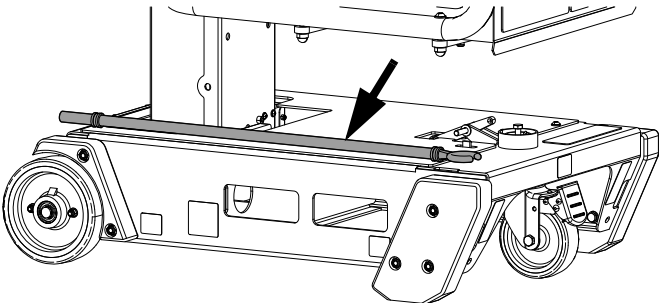
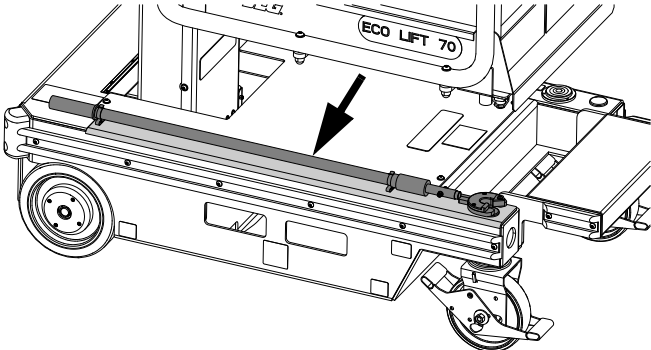

Figure 4-1. Emergency Lowering Tool (EcoLift 50)
Figure 4-2. Emergency Lowering Tool (EcoLift 70)
1. Locate emergency lowering tool on chassis, remove from machine. (See Figure 4-1. and Figure 4-2.)